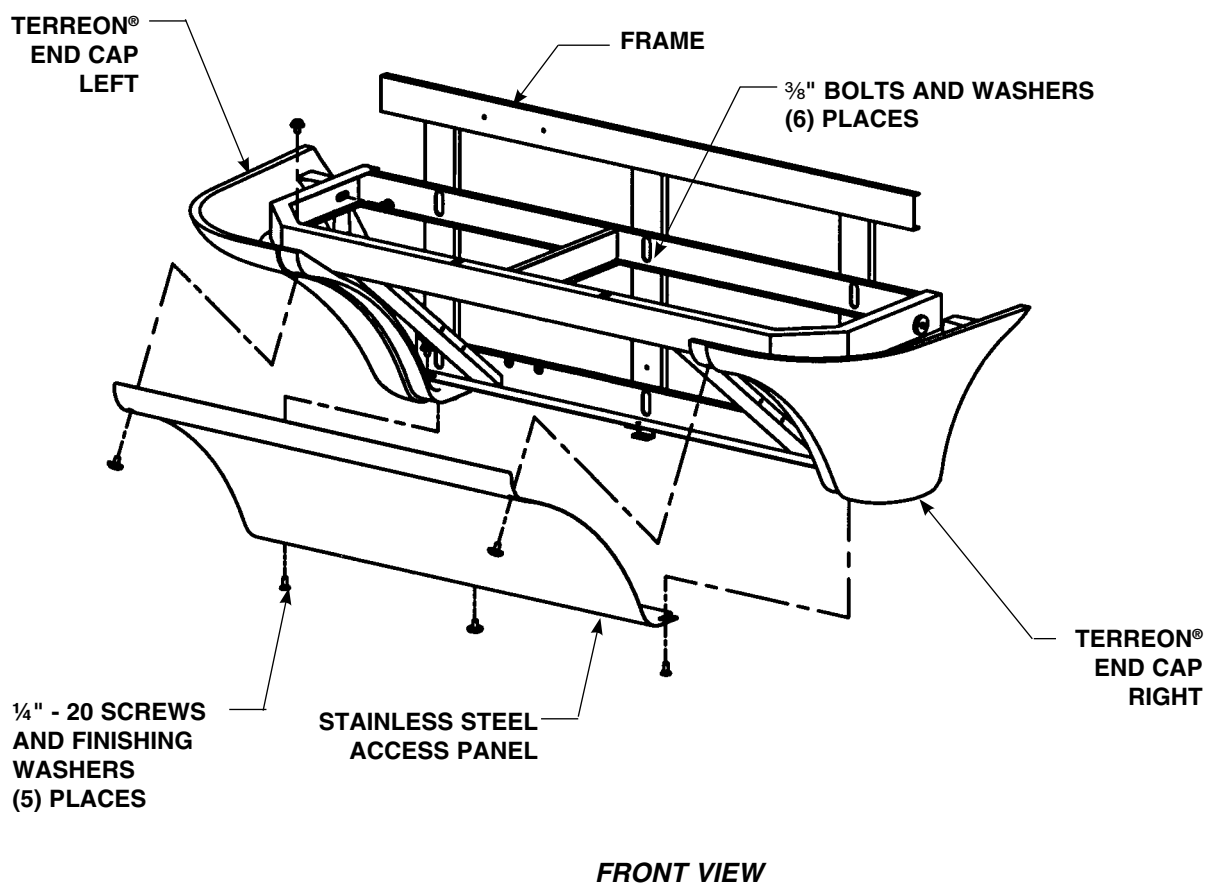
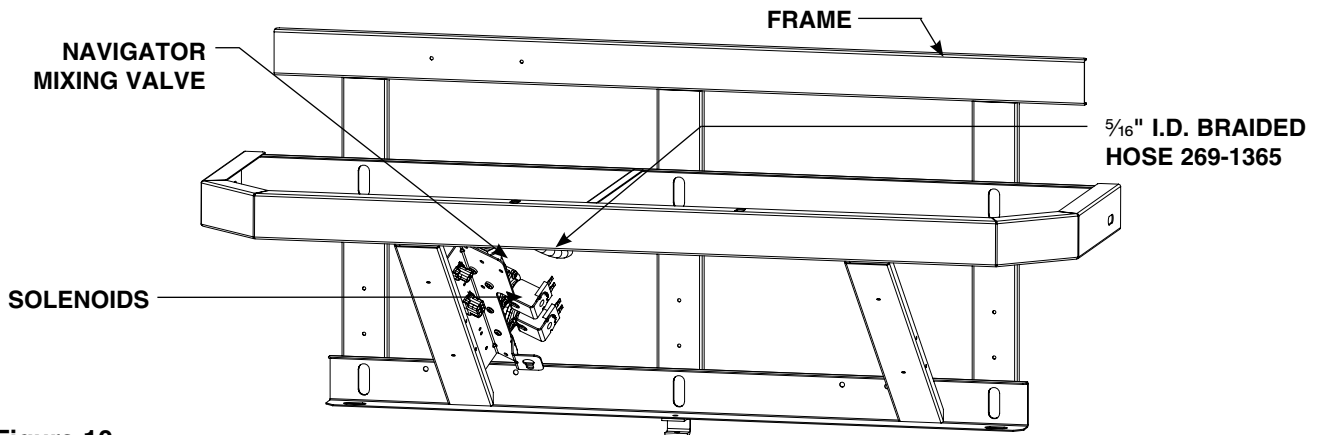

Figure 3
Figure 10
2. Remove the two top access panel screws and washers securing the access panel to the frame and remove the access panel (see Figure 3).
4. Reinstall panel to frame with the five Torx-head screws provided (see Figure 3 on page 8).
Using a  $\frac{5}{32}$ " Allen socket wrench, loosen, but do not remove the three bottom access panel screws. Remove the two top access panel screws and washers securing the panel to the frame and remove the access panel (see Figure 3 on page 8). Solenoids are located on left side of frame (see Figure 10).